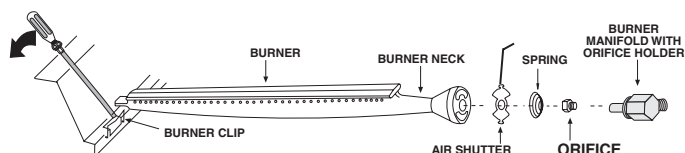

Figure 3 - Burner Orifice Diagram
d. Using a flat blade screwdriver, pry the burner retaining clip from rear wall of the barbecue frame (see Figure 3). Remove the burner by; A) Pulling it to the front of the barbecue B) Lift the far end out of the notch C) Pull the burner away from the manifold, taking care not to lose the air shutter and spring, which may become detached when the burner is removed.
a. After checking orifice drill size install the air shutter spring and the air shutter over the orifice holder fitting in the order and position shown in Figure 3.